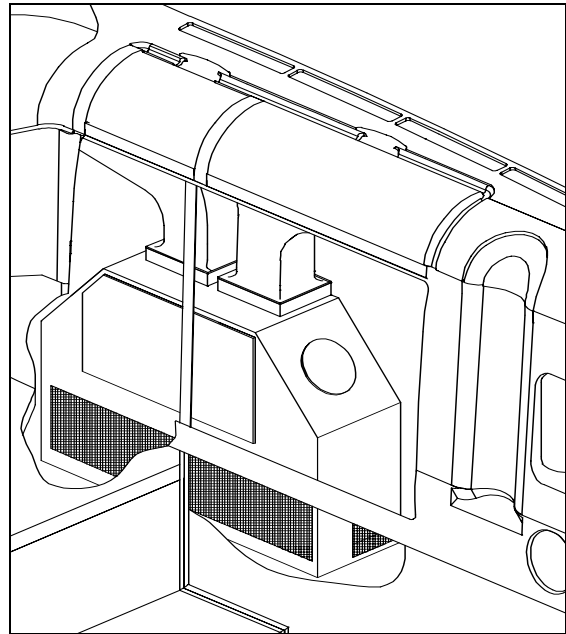

FIGURE 31: DRIVER'S HVAC UNIT
4. From inside of vehicle, open the manual vent on the coolant inlet line in the driver's unit (Fig. 31) to ensure an efficient draining.
Whenever the heating system has been drained and refilled, or the system has run low on coolant and coolant has been added, it is necessary to bleed air from heating system. Locate the manual vents illustrated in Figures 31